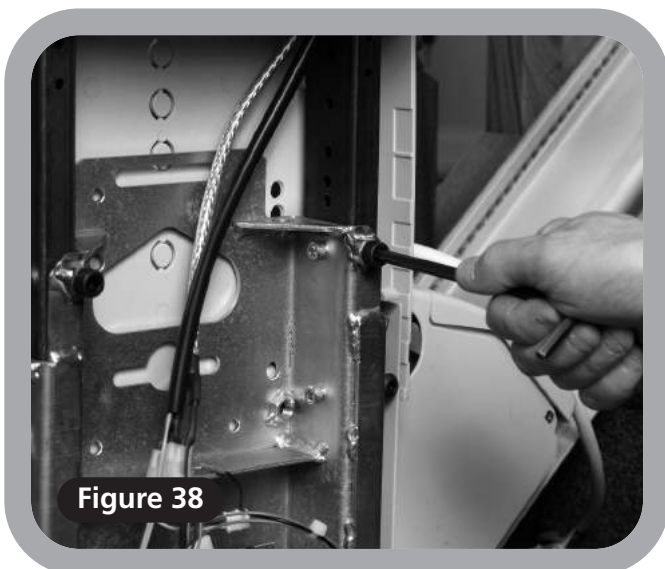

Figure 38
- 3 Tighten the seat post stabilising bolts (**Figure 38**), and tighten the safety bolt.